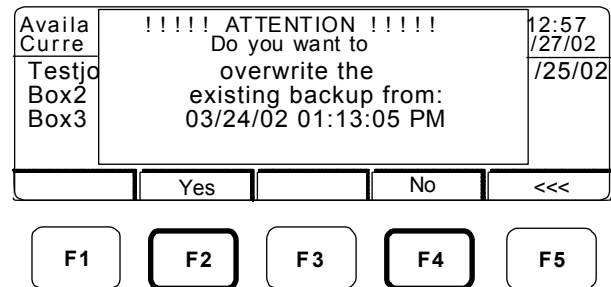

Figure 14-24.
2. Press F1 to start the Backup function. If a backup is already stored in Flash memory, a message will display (see Figure 14-24).